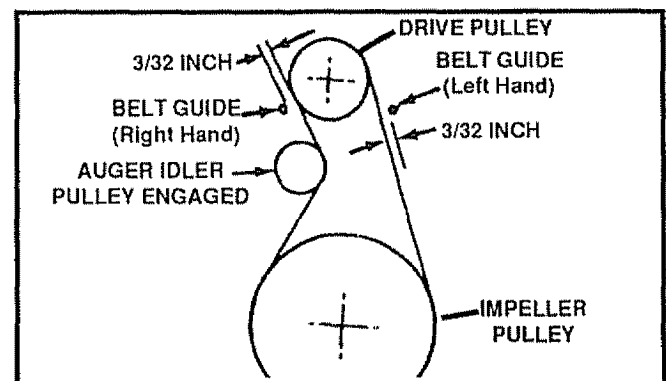

FIG. 30
- Loosen nut on auger idler pulley (See Fig. 30) and pull idler pulley away from belt.
- Measure the distance between the belt guides and the belt (See Fig. 30 on page 20) The distance should be $\frac{3}{32}$ " for each guide.